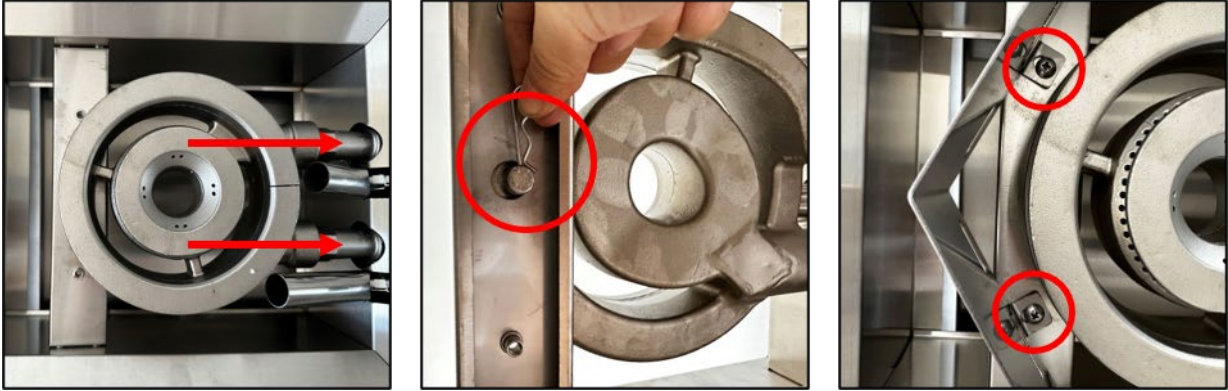

Figure 28 Replace Burner
- a. Insert the burner with both tubes through the firebox wall as shown in Figure 28 (left)
- b. Set the burner mounting post through the frame hole and reinsert the cotter pin as shown in Figure 28 (center)